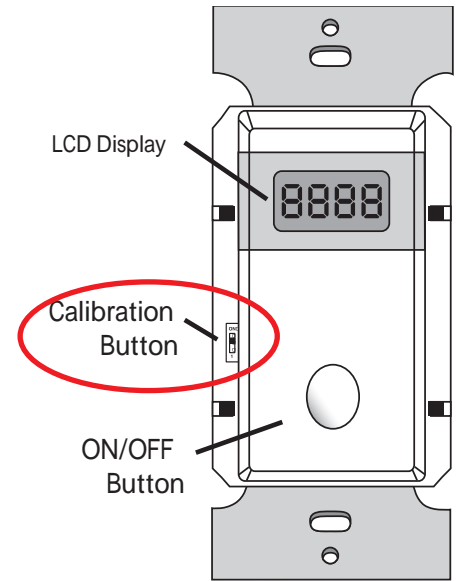

Fig. 7: Location of Calibration Button
1. Enter Settings Mode by pressing the Calibration Button (located on the left, behind the faceplate - Fig. 7).